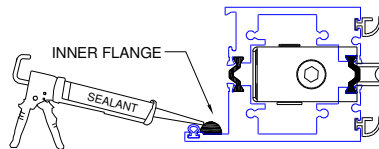
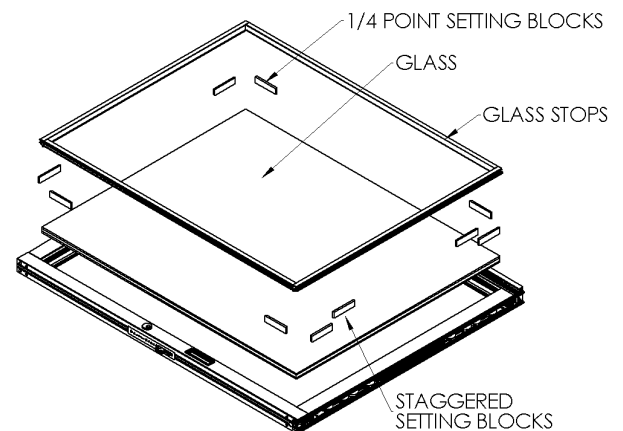

Figure 12:
Figure 13:
- Apply a 1/4"×1/4"×6" bead of compatible sealant from each corner on inner flange of panel (Figure 12).
- Install 4"×1/8"×1" glass setting blocks located in red bag (10 per panel) at 1/4 points into stiles, top and bottom rails. To properly support insulated glass panes, stagger the setting blocks at the bottom (Figure 13).
- Install glass to rest on the inner flange of panel then install glass stops (Figure 13). For instructions on squaring the panels see Appendix C.
- Install 4"×3/16"×1" glass setting blocks located in red bag (10 per panel) at 1/4 points into stiles, top and bottom rails. To properly support insulated glass panes, stagger the setting blocks at bottom (Figure 13).
- Install glass to rest on the inner flange of panel (Figure 12) then install glass stops (Figure 13).